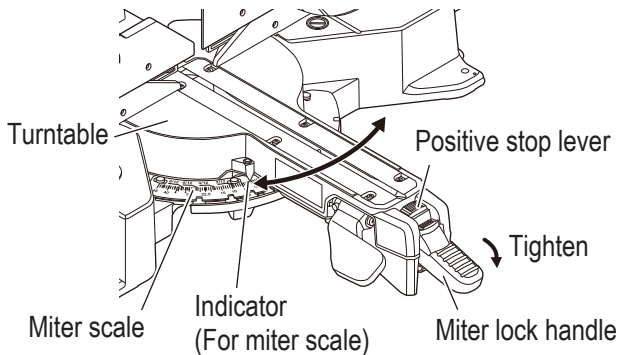

Fig. 27
9. Miter cutting procedures (**Fig. 27**)